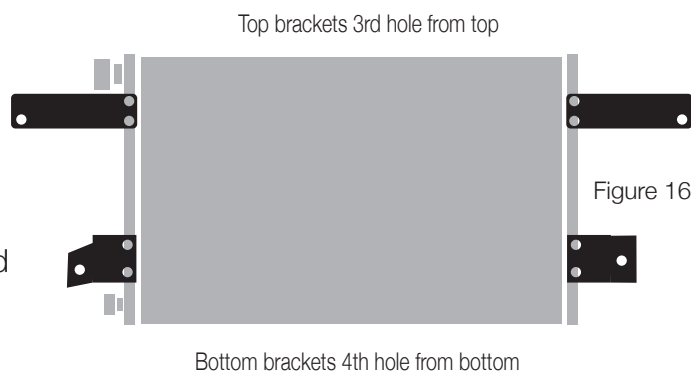

Figure 16
Locate the condenser, four condenser mounting brackets and eight #10 x 3/8" hex head screws. Attach brackets as shown in figure 16 using #10 - 20x1/4" Screws. Slide condenser assembly into place and attach to the radiator bulkhead using (4) 1/4"-20 x 5/8" hex head bolts and flange nuts (use existing holes in bulkhead). Locate the drier and drier mounting bracket from the condenser kit.